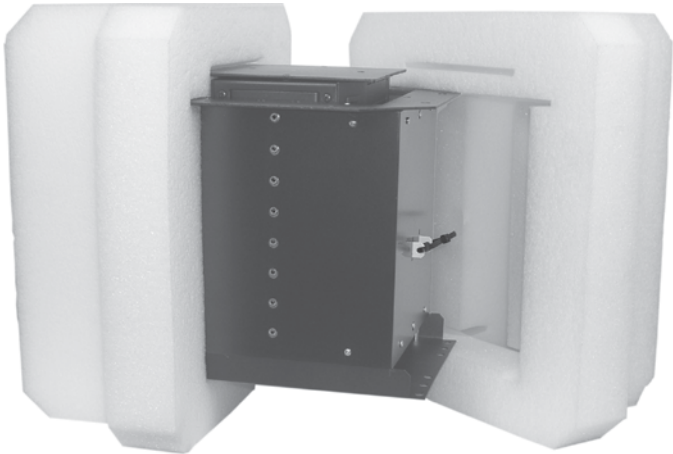

Figure B-9 — Installing the foam shell
4. Insert the HSA 822MS into one of the foam shells (figure B-9). Either open end of the open top panel fits into the recesses in the foam.